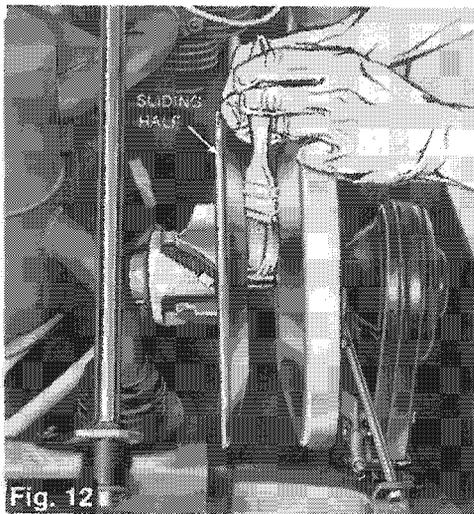

Fig. 12
2. Apply light coating of low-temp grease on the shaft. Activate the sliding half several times to distribute grease over full length of shaft. (See Fig.12). Be careful that grease does not get into inner halves of the pulley.